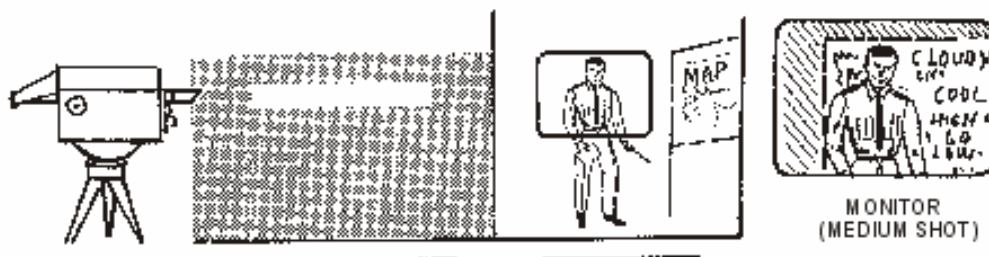

Figure F-2. Zoom Out
(3) Zoom back to 50mm. The depth of field has now changed. The subject may now move to a distance of approximately 10 feet in front of the camera (move 3 feet closer), still be in sharp focus, and be able to move to the map and still be in focus (Figure F-2).